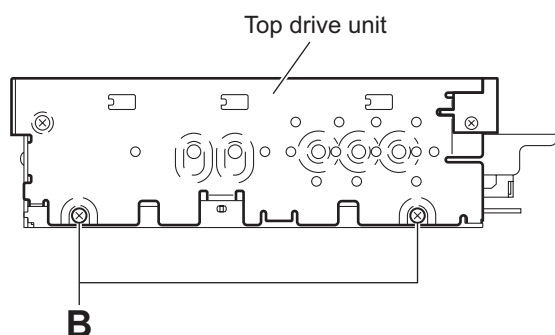

Fig.5
3.1.3 Removing the top drive unit (See Figs.5 to 8)
- (1) From the both sides of the main body, remove the four screws **B** attaching the top drive unit. (See Figs.5 and 6.)